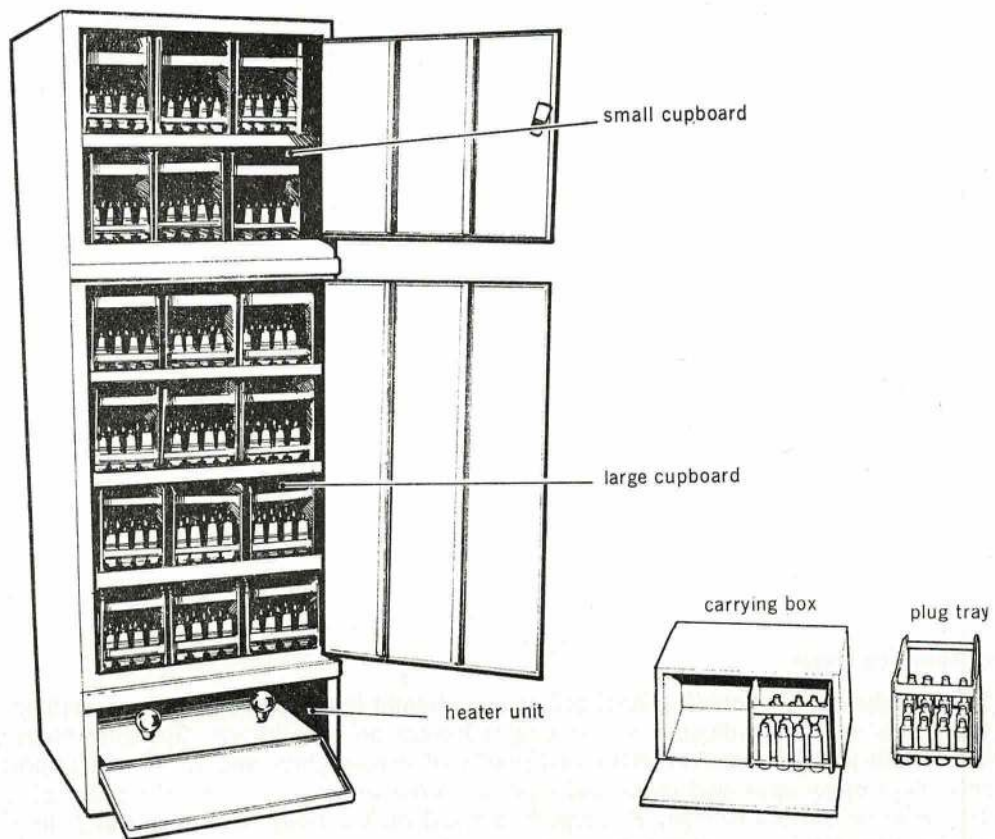

Fig 1.8.10 A storage cupboard
37. Plugs that have been satisfactorily serviced and tested, but are not to be put into immediate use, should have the external body threads lightly smeared with the approved grade and make of anti-seize compound. Screen and body threads should be fitted with bakelite protection caps. They are then placed in plug trays and put into a storage cupboard which is electrically heated, the temperature inside the cupboard being thermostatically controlled at 5° to 10°F above normal room temperature. Storage under these conditions ensures freedom from condensation. A storage cupboard is illustrated at Fig 1.8.10.